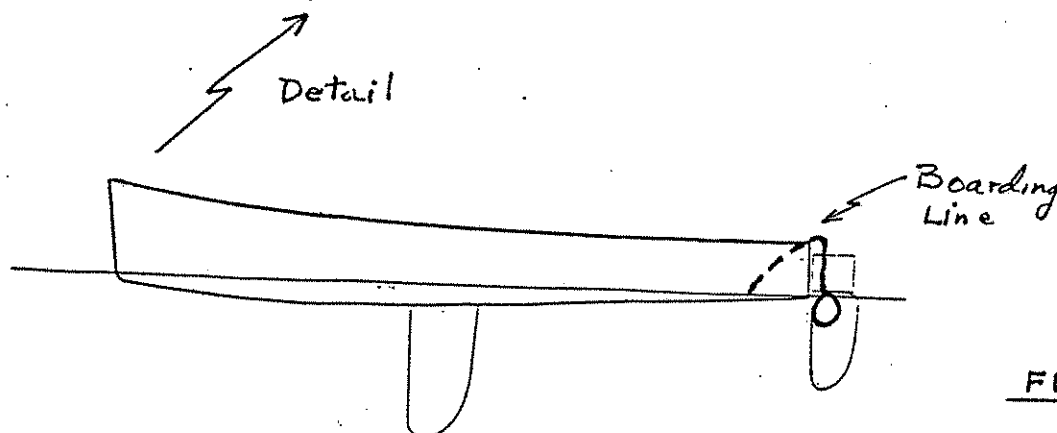

FIGURE 2
- Figure 2 shows a boarding line which provides a quick and easy means of boarding the boat from the water, such as after a swim or a capsize. An eight-inch diameter loop with the knot at the waterline provides a sure foothold for stepping into the boat. The other end of the $5/16$ -inch line can be tied around the hiking strap and left permanently on the floor.